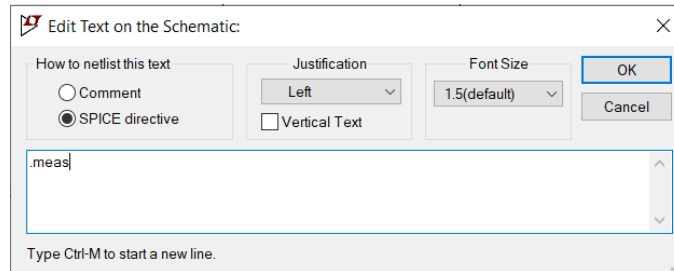

Figure 2.13 Edit Text on the Schematic Window
2. **In the “Edit Text on the Schematic” window, type .meas.** Figure 2.13 shows this.